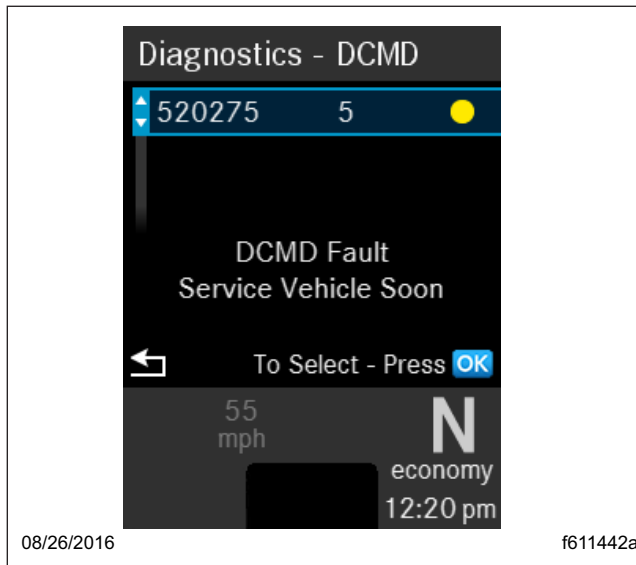

Fig. 8.3, Information Screen for an Active Fault Code
3. Locate the code to troubleshoot from the list of active fault codes, then press OK to access the information screen. See Fig. 8.3.